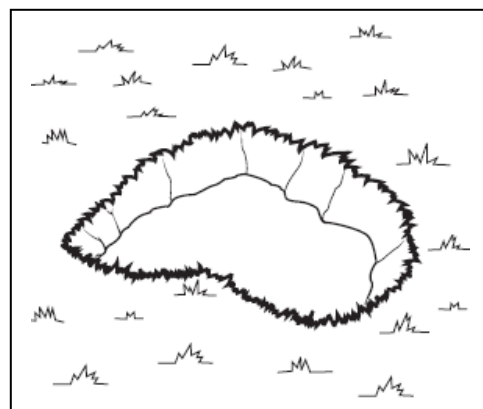

Fig. 2
2. Dig out your pond and remove any debris or rocks that might damage your liner. Add approximately 2 in. of sand to the pond area. The sand functions as a cushion beneath your pond liner. Spread the sand over the entire area and compact it. Fig. 2